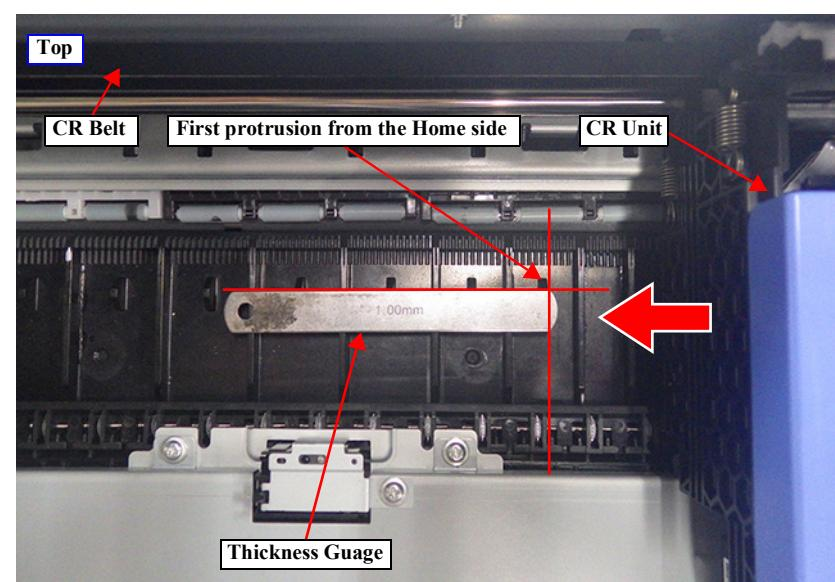

Figure 4-24. PG adjustment (1)
8. Set the thickness gauge referring to Figure 4-24, and then pull the CR Belt to move the CR Unit over the thickness gauge slowly.